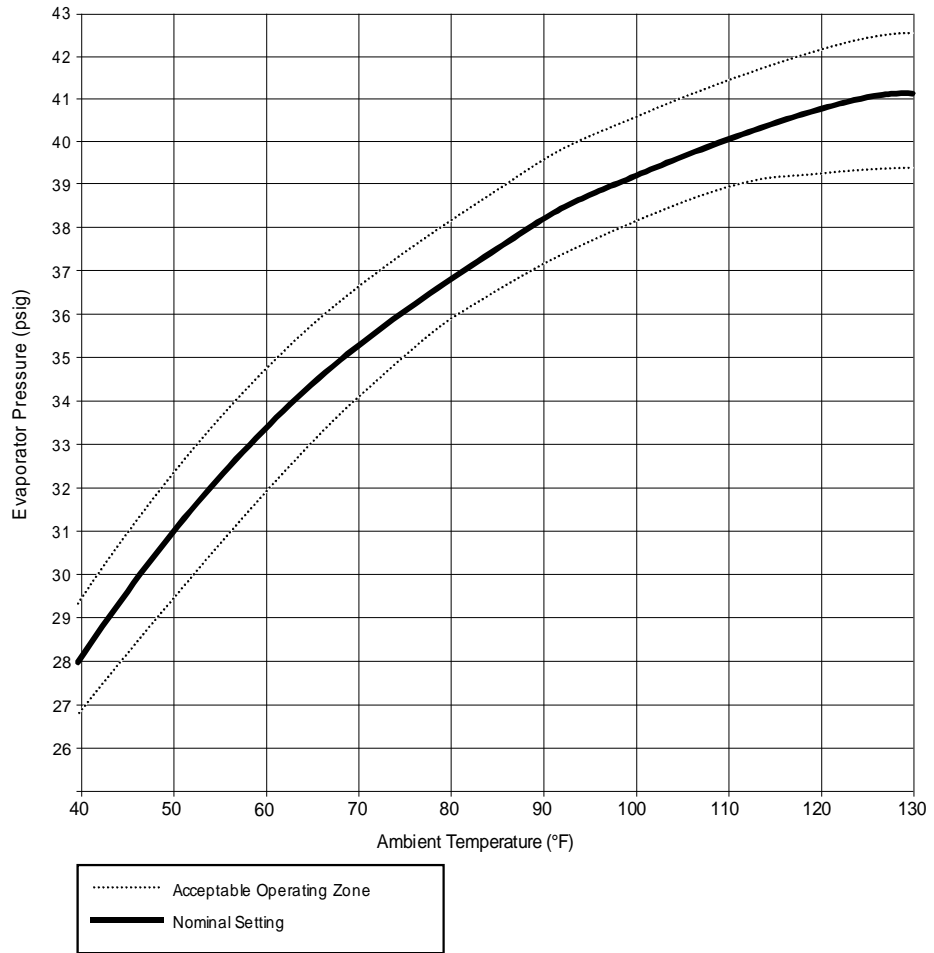

Figure 5: Evaporator Pressure vs. Ambient Temperature (Sea Level–No Load Condition)
Using the corrected no load evaporator pressure gauge reading and current ambient temperature, refer to the graph in Figure 5 to determine if the evaporator pressure is at the proper setting. If the value is within the acceptable operating zone as shown on the graph, then no further adjustments are necessary. If the value is not within the acceptable operating zone, then it will be necessary to adjust the expansion valve. Refer to the Refrigeration Service section and follow Steps 1 through 5 (readjusting the expansion valve setting) to properly adjust the expansion valve until the evaporator pressure gauge is at the adjusted pressure.
If the air dryer is installed in high altitudes, the expansion valve will have to be adjusted to compensate for the new ambient pressure. For altitudes from 1500 to 5000 ft, increase the expansion valve setting by 2.5 psig (17.5 kPa), and for altitudes over 5000 ft, increase the expansion valve setting by 4.0 psig (28 kPa). This increase in evaporator pressure must be added to the value determined by the graph in Figure 5 to account for altitude effects. Refer to the Refrigeration Service section and follow Steps 1 through 5 (readjusting the expansion valve setting) to properly adjust the expansion valve until the evaporator pressure gauge is at the adjusted pressure.
If the air dryer is used in ambient conditions between 35 and 40°F (2 and 4°C) the expansion valve must be adjusted to increase the expansion valve gauge pressure by 3 psig (21 kPa) to offset a possible freeze-up condition. This increase in evaporator pressure must be added to the value determined by the graph in Figure 5 to account for low ambient temperature effects. At high altitudes and low ambient temperatures, it will be necessary to add both pressure corrections and readjust the expansion valve. Refer to the Refrigeration Service section and follow Steps 1 through 5 (readjusting the expansion valve setting) to properly adjust the expansion valve until the evaporator pressure is at the adjusted pressure. Operation of the A-4400 in ambient temperatures below 35°F (2°C) is not recommended.
The A-4400 is factory set to follow the Evaporator Pressure vs. Ambient Temperature curve illustrated in Figure 5. If at no load, the evaporator pressure rises above the acceptable operating zone, one or more of the following conditions may exist.
If the evaporator pressure is below the acceptable operating zone (refer to Figure 5) then either the expansion valve is out of adjustment or the refrigerant charge is low.
3. Turn the expansion valve adjusting screw to provide an evaporator pressure that corresponds to the ambient temperature determined in Figure 5. Turning the screw clockwise increases the pressure; counterclockwise decreases the pressure. One complete revolution (360 degrees) equals a pressure change of approximately 10.5 psi (73.5 kPa).
8. If the evaporator pressure (gauge reading plus correction) does not return to normal as illustrated in Figure 5, adjust the expansion valve as described in the Refrigeration Service section.